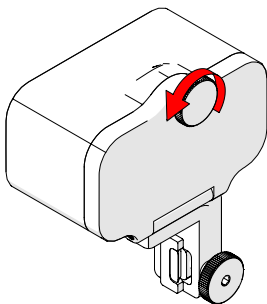

Fig. 33 - Unscrew battery door knob
1. Unscrew the knob of the battery compartment (*Fig. 33*).